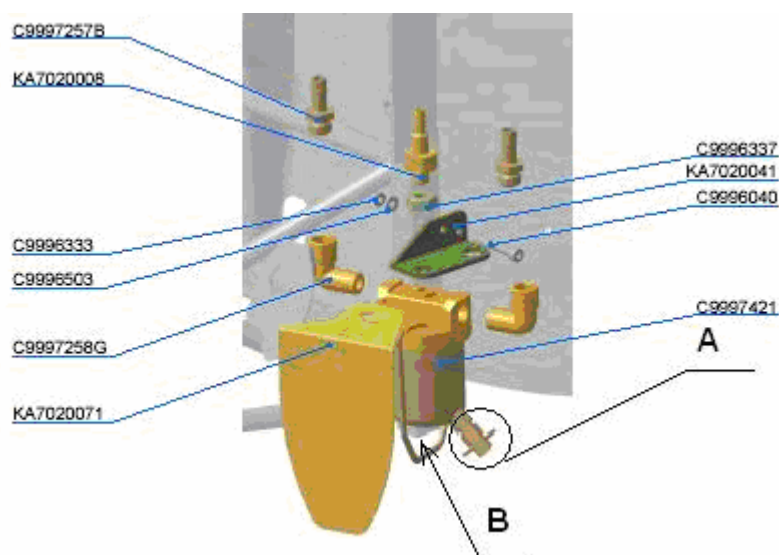

Fig. 7
2. For passing fuel through the lines and water in fuel by draining some fuel through the drain valve (item A, Fig. 7).
3. For foreign objects in the gascolator (Unscrew the nut (item B, Fig. 7), remove the bail and remove the body (ensure integrity of the O-ring that recovers its sizes upon some time needed to get it dry). Assemble the gascolator in reverse o the disassemble process).